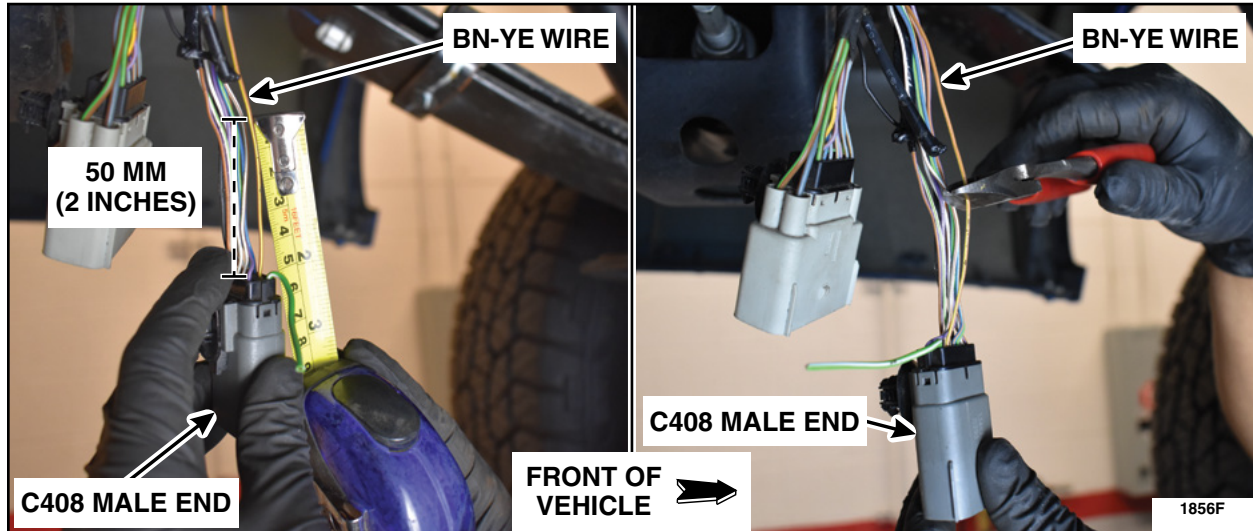

FIGURE 60
7. Measure 50 mm (2 in) from the back side of the male end of C408 and cut the Brown-Yellow (BN-YE) wire (cavity 2) at the 50 mm (2 in) measurement. See Figure 60.